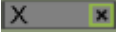

Figure 61 Camera Order Settings Menu
1. Enter the Live View menu, shown in Figure 61 by going to Menu > System Configuration > Live View.